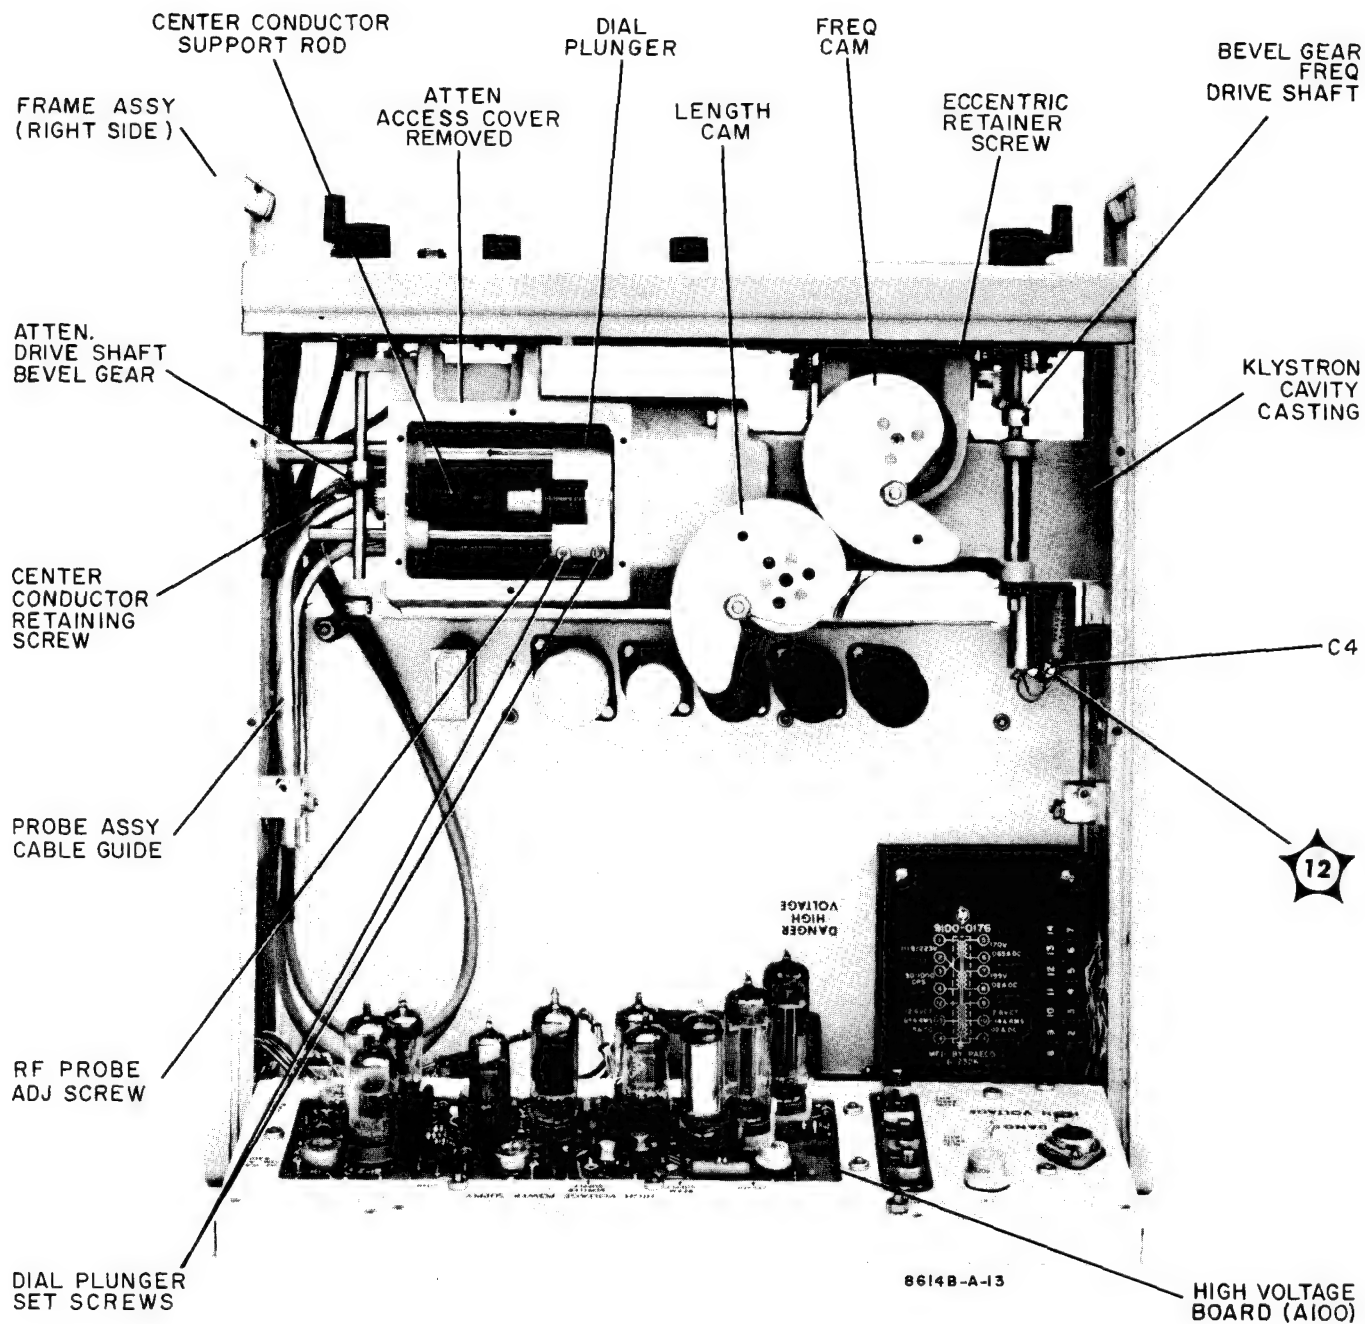

Figure 5-8. Model 8614B Top View, Cover Removed
- b. Remove top cover and attenuator access cover (see Figure 5-8).
- e. Remove retaining screw from defective probe in klystron cavity casting and remove from casting (see Figure 5-8).
- Turn FREQUENCY (MC) to approximately the middle of the frequency band.
- Orient Length Cam to Frequency Cam as shown in Figure 5-8.
a. Connect a Clip-On Milliammeter, such as hp Model 428A, to wire on center feed-through capacitor, C4 (wht/orn/vio wire, see Figure 5-8).
b. Connect crystal detector/oscilloscope combination to VARIABLE RF OUTPUT and set FREQUENCY (MC) to 1650 MC (3050 MC for 8616B).
f. If clamping action referred to in step c occurs before VARIABLE RF OUTPUT begins to decrease and before beam current exceeds 28 ma, go to next procedure. If clamping action does not occur before VARIABLE RF OUTPUT begins to decrease or before beam current exceeds 28 ma, readjust R420 as in step d above. Using a DC Voltmeter, such as the hp Model 405B with a floating input, measure voltage difference between klystron cathode and control grid (see Figure 5-8). Replace CR404 with a zener diode whose breakdown voltage is as close to, but slightly less than, the measured voltage minus 0.6 volts (see Figure 5-4).
c. Refer to graph, Figure 5-10. The horizontal axis represents the measured frequency change from step b, the vertical axis indicates the dial corrective setting. For example, if the difference between dial settings (step b) is 1354 Mc, the corrective setting for the dial as found on the graph is 990 Mc. To make correction, set frequency dial to 1000 Mc, loosen the two setscrews that clamp dial plunger to rack, hold dial plunger stationary, and set dial to 990 Mc. Tighten two setscrews (see Figure 5-8).
i. If frequency dial reading errors are greater than ± 5 Mc (± 10 Mc for 8616B), shifting the dial may bring all errors within specification. If shifting dial will not sufficiently correct errors, it may be necessary to shift position of center conductor support rod (see Figure 5-8). The center conductor is notched at end closest to right side of instrument and may be loosened and then adjusted "in" or "out" of klystron cavity. Notch or scratch center conductor rod so that original position may always be known. If overall frequency error was positive, adjust center conductor toward right side of instrument. If overall error was negative, adjust center conductor toward left side of instrument. When adjusting center conductor position, never change by more than about 20 thousandths of an inch at a time.